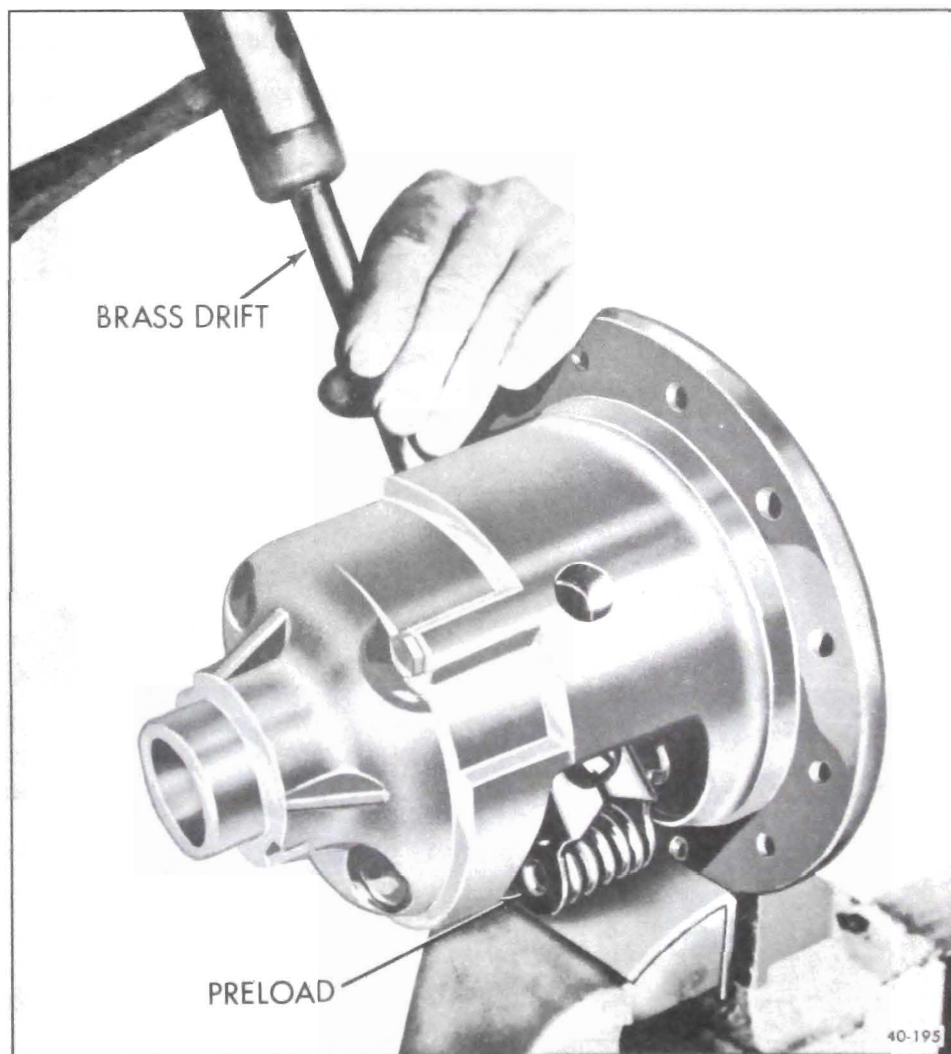

Figure 40-168 Removing Preload Thrust Blocks and Springs
5. Remove the preload spring thrust blocks and spring from the case. See Figure 40-168.